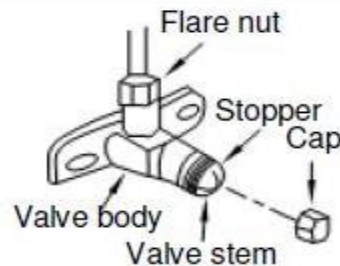

Fig.60
2. Open the valve stem until it hits against the stopper. Do not try to open it further. Replace and securely tighten the valve stem cap with a wrench. Figure 60